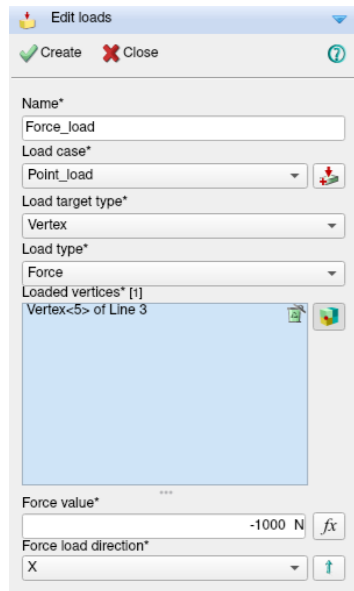

Figure 19: Attaching a point load
**Main menu** → Geometry → Assign → Loads  [Fig. 19] [Fig. 20]